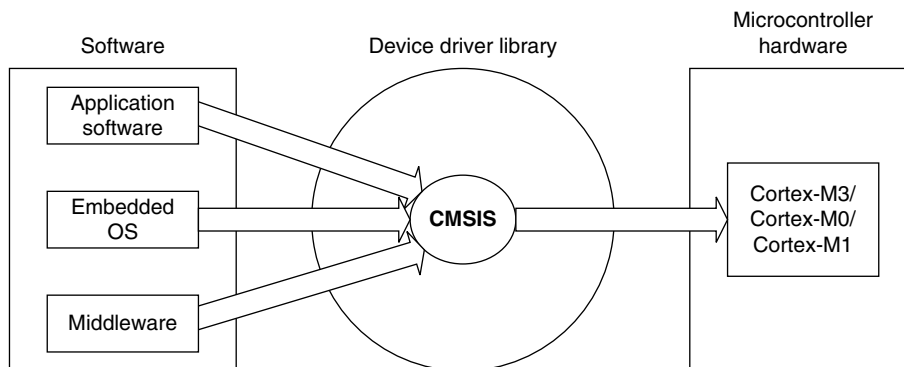

FIGURE 10.6
The Cortex-M3 microcontrollers are gaining momentum in the embedded application market, as more and more products based on the Cortex-M3 processor and software that support the Cortex-M3 processor are emerging. At the end of 2008, there were more than five C compiler vendors, and more than 15 embedded Operating Systems (OS) supporting the Cortex-M3 processor. There are also a number of companies providing embedded software solutions, including codecs, data processing libraries, and various software and debug solutions. The CMSIS was developed by ARM to allow users of the Cortex-M3 microcontrollers to gain the most benefit from all these software solutions and to allow them to develop their embedded application quickly and reliably (see Figure 10.6).